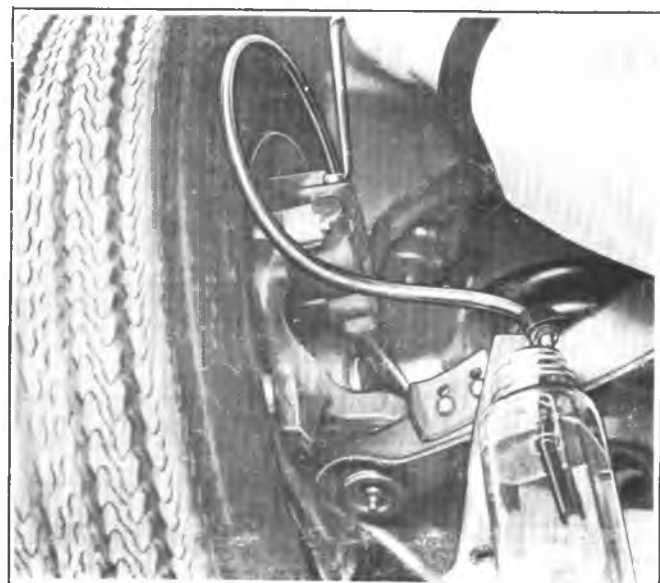

Fig. 5-4--Bleeding Wheel Cylinder
2. With the proper size box end wrench or Tool J-21472 over bleeder valve, attach bleeder tube to valve and allow tube to hang submerged in brake fluid in a clean glass jar (fig. 5-4).